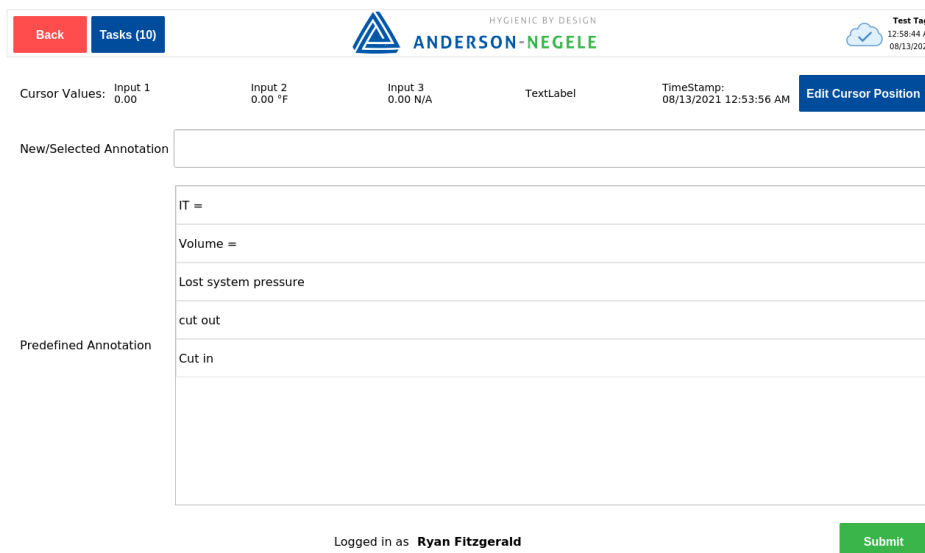

Figure 56: Pre-Configured Add Notes Annotations
7. Select from the list of pre-configured annotations See Figure 56